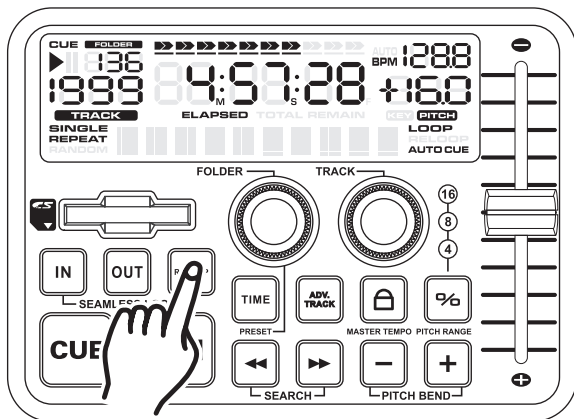

Figure 13
11. REPLAY LOOP - The **RELOOP** (36) function allows you to return to your stored loop at any time. The **IN BUTTON** (36) and **OUT BUTTON** (36) LEDs will indicate a loop is stored in memory, and may be played at any time. To replay the loop, press the **RELOOP BUTTON** (36) (Figure 13). The **IN BUTTON** (36) and **OUT BUTTON** (36) LEDs will again begin to flash indicating SEAMLESS LOOP mode has been activated and your stored loop will immediately begin to play.